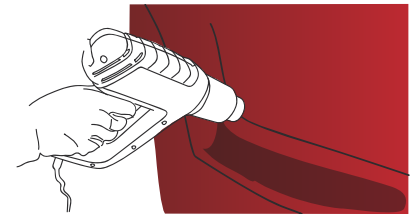

Figure 11
- Once this step is completed, heat all the hollow parts which have undergone heavy deformation to a temperature ranging from 80 °C to 90 °C (from 176 °F to 194 °F) to kill the shape memory of the film. (FIG. 11)